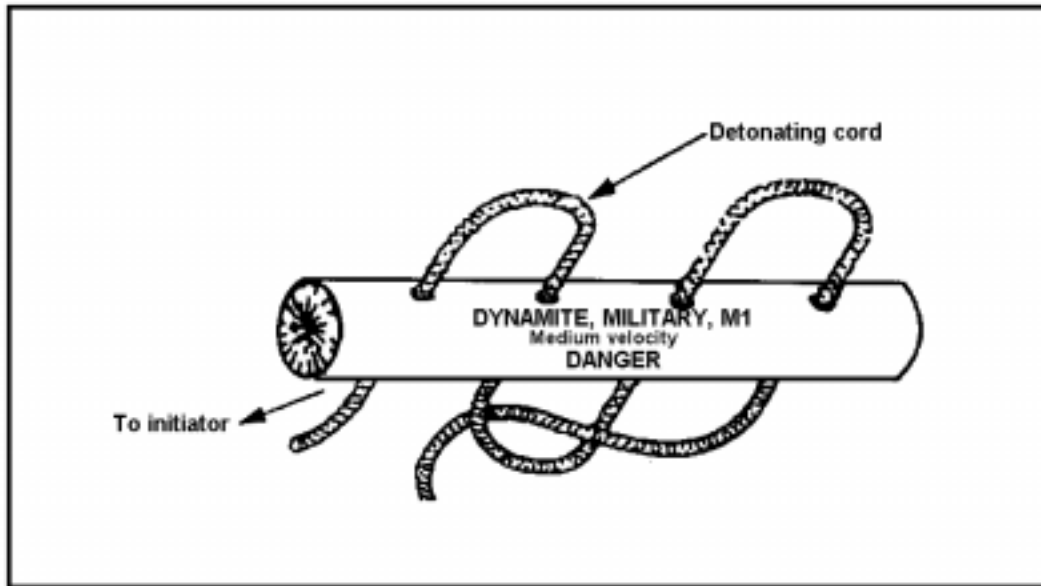

Figure 051-193-1311-6
- c. Secure the detonating cord tail by passing it between the detonating cord lace and the dynamite charge (Figure 051-193-1311-6).